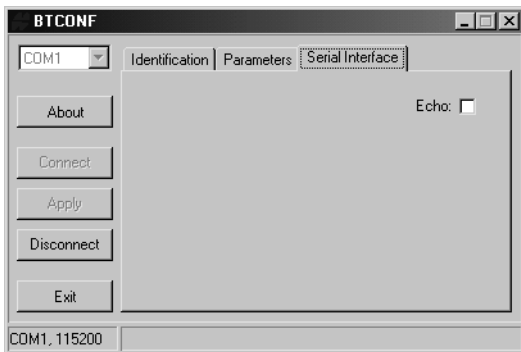

Figure 2-37. BTCONF Serial Interface Tab
- Click the **Serial Interface** tab (Figure 2-37). Enable Echo to display Bluetooth module replies and corresponding commands on the computer terminal. If needed, click **Apply**.